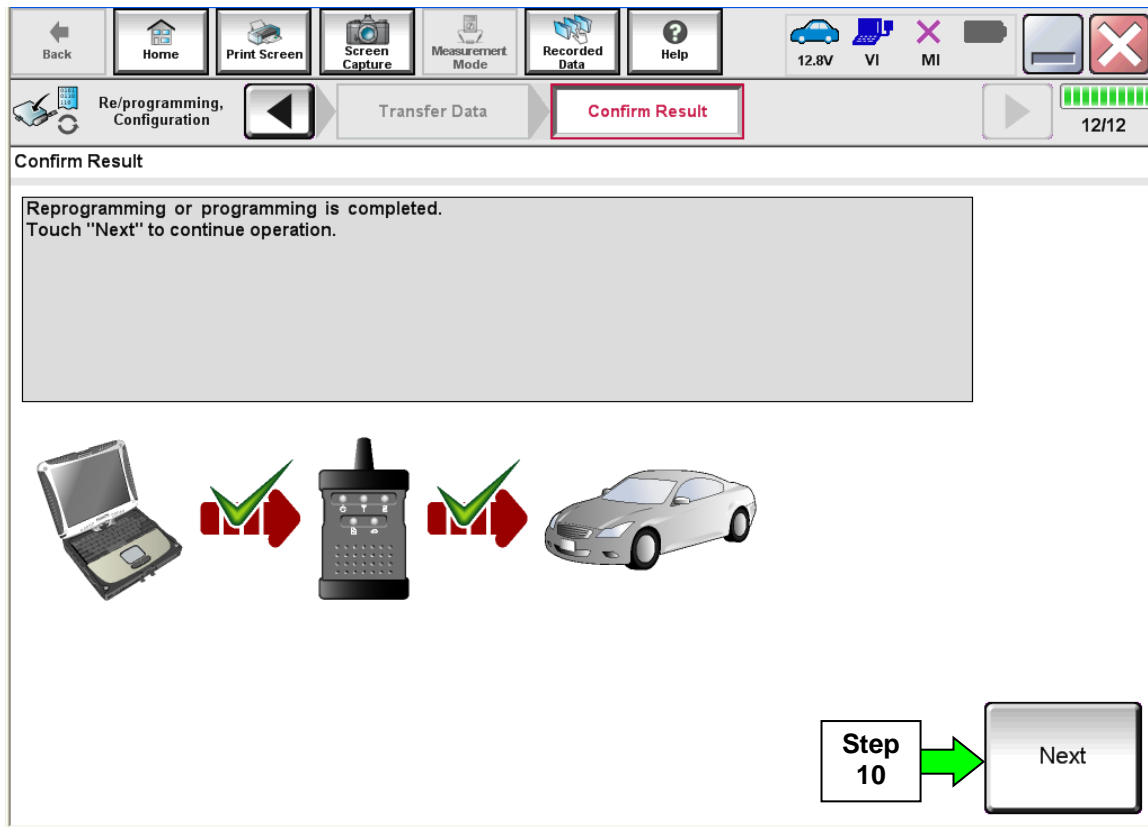

Figure 4D
8. When the screen in Figure 4D displays, reprogramming is complete.
**NOTE:** If the screen in Figure 4D does not display (indicating that reprogramming did not complete), refer to ECM recovery on the next page.